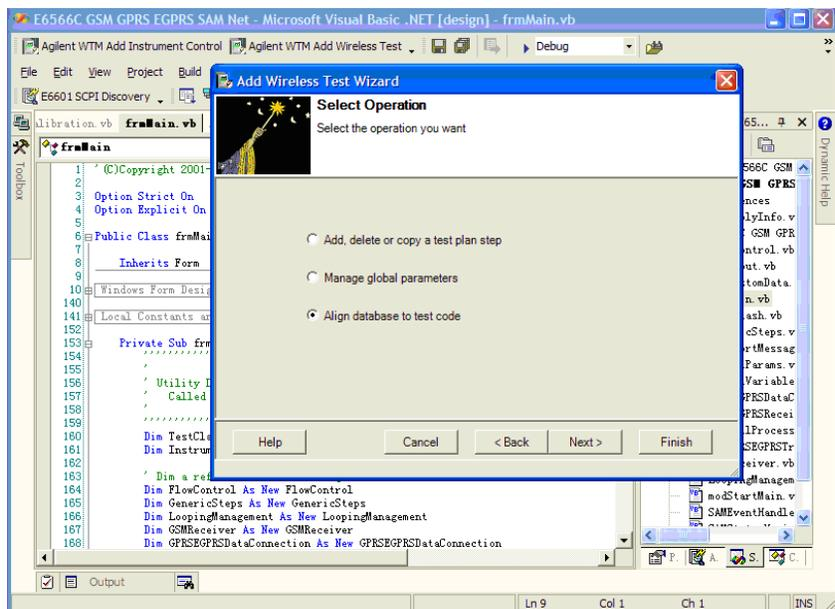

Figure 5. Add Wireless Test Wizard.
- b. Click on the **Agilent WTM Add Wireless Test** button, the Add Wireless Test Wizard window will open. Choose the **Align database test code>Next** and go through the wizard. See Figure 5.